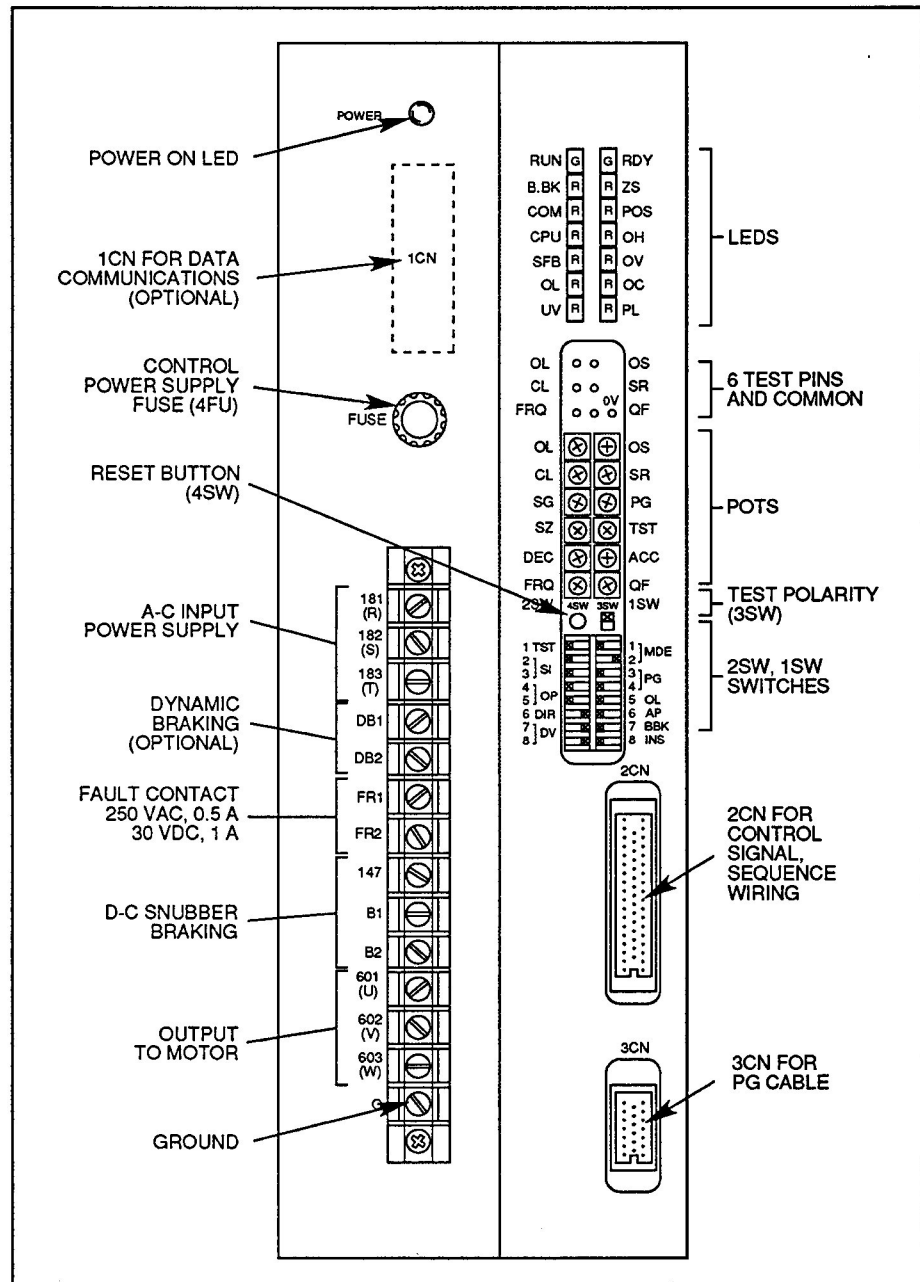

Figure 3-13. Location of Typical Control Wiring and Startup Components.
4. Throughout the wiring procedures, refer to Figure 3-13 for wiring locations.
1. Run a suitable equipment grounding conductor or bonding jumper **unbroken** from the chassis ground (G) terminal on the controller faceplate (Figure 3-13) to the grounding electrode conductor (earth ground). Note that, with an enclosed controller, the chassis ground (G) terminal is connected to the ground terminal near the top of the enclosure; therefore, connect the enclosure ground to earth ground.